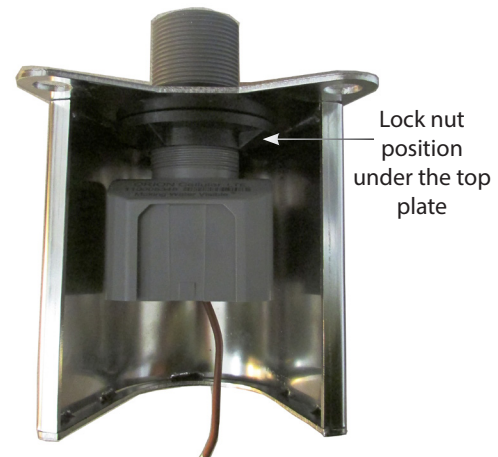

Figure 4: Lock nut under top plate
3. Thread one of the two (2) lock nuts from the kit onto the endpoint, large diameter side *up*.
4. Place the endpoint antenna end through the center opening of the endpoint guard top plate, up to the lock nut as shown in Figure 4. The lock nut will be in contact with the underside of the top plate.